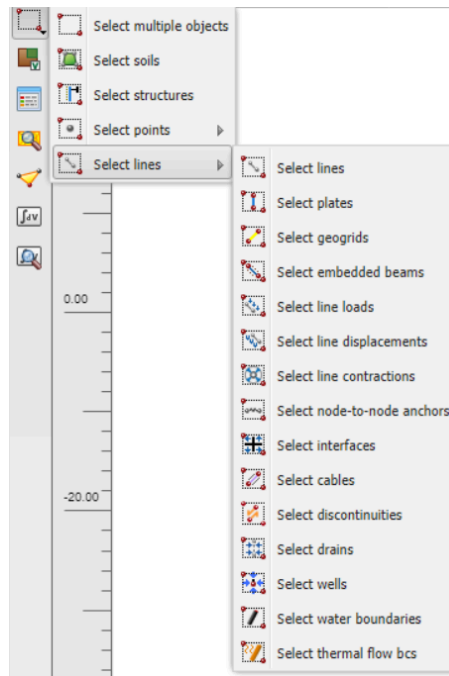

Figure 3-7: Select multiple objects
- 2 Click the **Select multiple objects** button in the side toolbar. In the appearing menu select **Select line > Select plates** as shown in Figure 3-7 \(p. 63\).